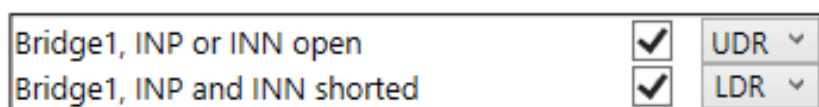

Figure 174. UDR/LDR Selection
- UDR/LDR drop-downs: define if an upper or lower diagnostic range of signalization level is used on the AOUT and/or FOUT pins for the selected check (see Figure 174).